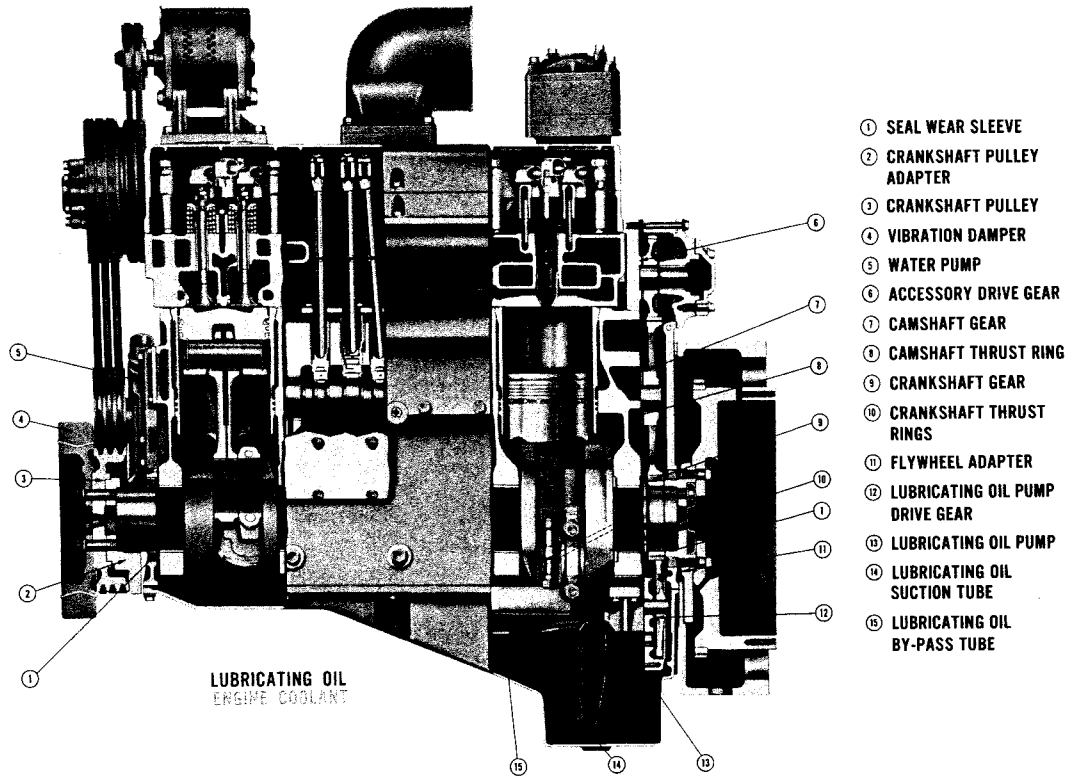

Fig. 5-18, (LWC-16). Lubricating oil and coolant flow – V-903
Oil drawn from pan sump through a screen is delivered to engine working components through oil lines and oil headers which are drilled the length of block. Drillings in block, cylinder head, crankshaft and rocker lever shafts complete oil circulation passages. Fig. 5-18 and 5-19.
1. Oil flows from cooler and filter to right bank of oil drilling at front of engine to front center of block. Oil flows through crossover at front of block to left bank and right bank main oil drillings (drilled length of block). Fig. 5-18.